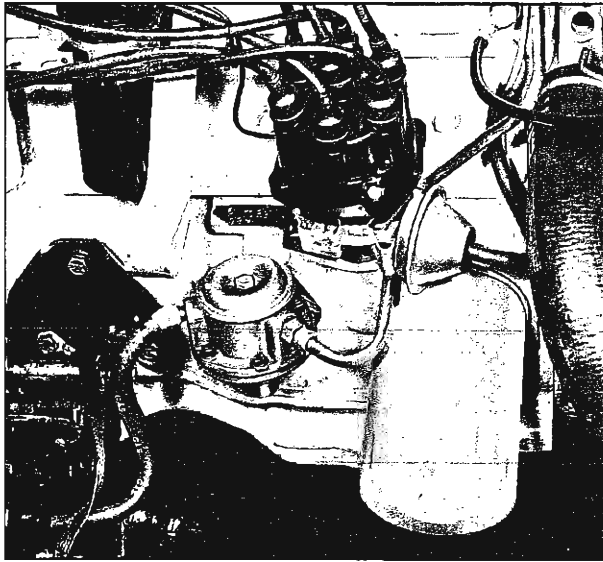

Fig. 6A-28 Oil Filter Location 6 Cyl.
1. Unscrew filter by hand from engine block base at right front (6 cyl. only) (Fig. 6A-28). Turn hex nut on bottom of filter counterclockwise to unscrew filter from base (V-8 only) (Fig. 6A-29).